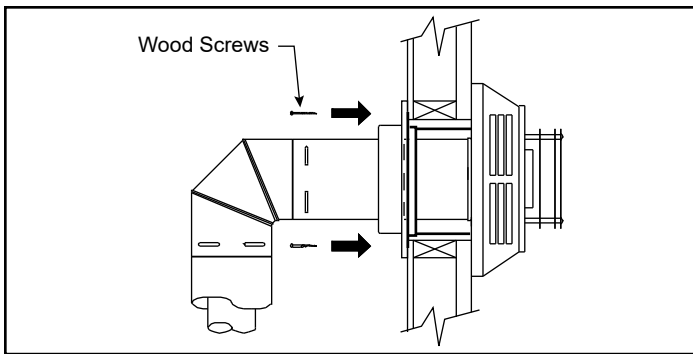

Figure 3.31
Step 6 - Slide the wall thimble cover up to the wall surface and attach to the wall with screws provided, Figure 3.31. Apply optional decorative brass trim to wall thimble cover if desired.